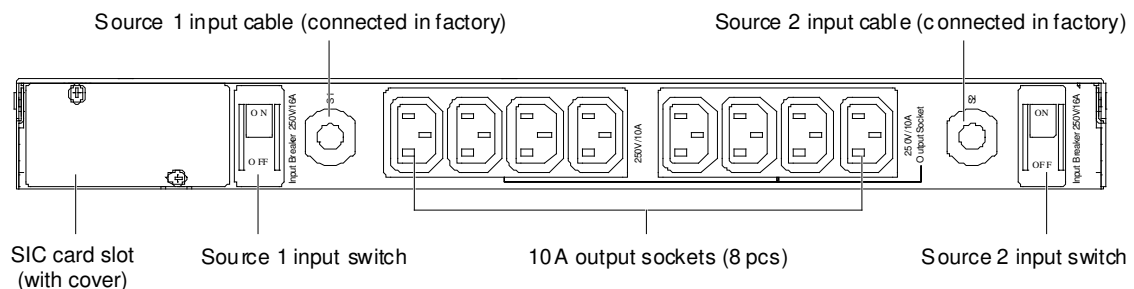
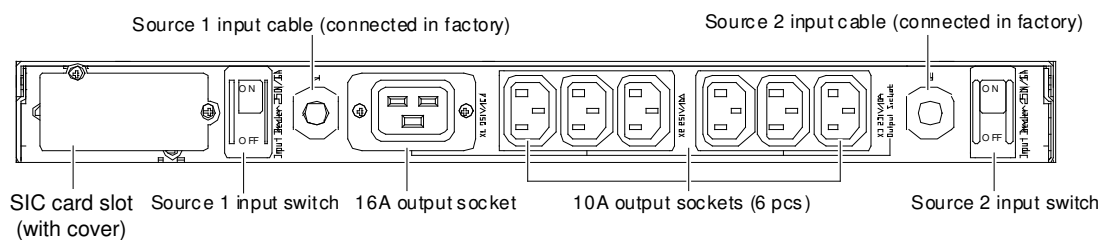
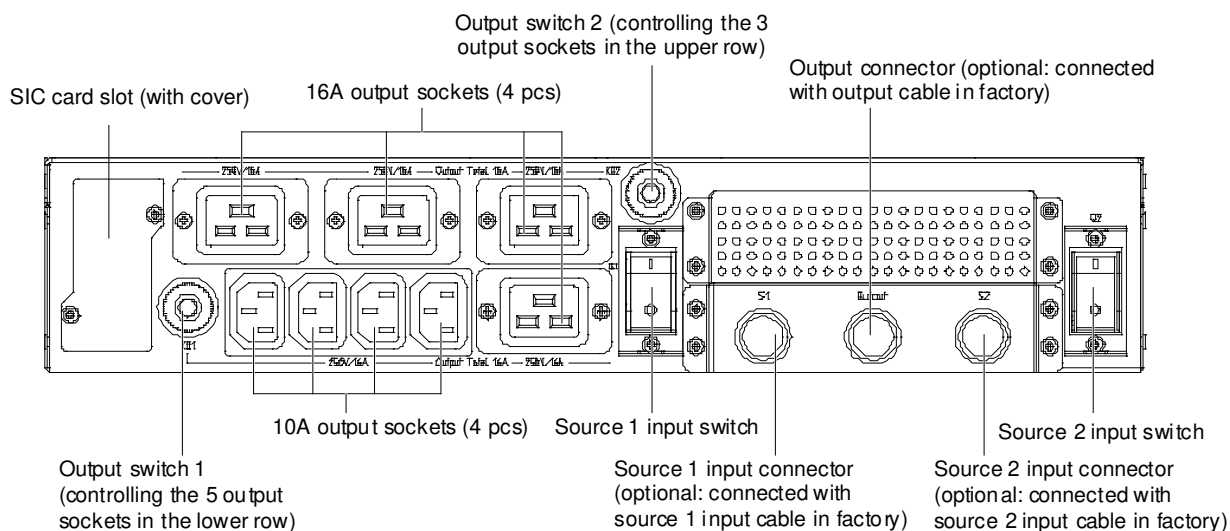

Figure 1-4 10A LTS back panel
Figure 1-5 16A LTS back panel
Figure 1-6 32A LTS back panel
The components provided on the LTS back panel are shown in Figure 1-4 ~ Figure 1-6. The input switches are described in Table 1-3.
1. Check that the source 1 input switch and source 2 input switch (see Figure 1-4 ~ Figure 1-6) of the LTS are off.
The 10A LTS provides eight 10A output sockets (see Figure 1-4) on the back panel. Insert the load cable plugs into corresponding output sockets of the LTS. Note that the total load rated current cannot exceed 10A.
The 16A LTS provides six 10A output sockets and one 16A output socket (see Figure 1-5) on the back panel. Insert the load cable plugs into corresponding output sockets of the LTS. Note that the total load rated current cannot exceed 16A.
The 32A LTS provides four 10A output sockets and four 16A output socket (see Figure 1-6) on the back panel. Insert the load cable plugs into corresponding output sockets of the LTS. Note that the output sockets are in two rows, three 16A output sockets in the upper row, four 10A output sockets and one 16A output socket in the lower row, and that the total load rated current for each row of output socket cannot exceed 16A.
The 32A LTS provides an output connector (see Figure 1-6) on the back panel for load connection through cable. It also provides an optional output cable with a connector at the end. Table 2-1 is the recommended cable min cross-sectional area for users, select appropriate cables according to Table 2-1.
The input cables (see Figure 1-4 and Figure 1-5) connected to the two sources of the 10A and 16A LTSs each provide a connector at the end. Connect the two connectors into corresponding input power.
The 32A LTS provides two input connectors (see Figure 1-6) for connecting the two source supplies respectively through cable. It also provides optional input cables with a connector at the end. Table 2-1 is the recommended cable min cross-sectional area for users, select appropriate cables according to Table 2-1.
The LTS provides a USB interface (see Figure 1-2 and Figure 1-3) on the front panel, which supports RS232 communication, and provides an SIC card slot (see Figure 1-4 ~ Figure 1-6) on the back panel, which is used to install the optional SIC card and supports SNMP networking communication. The two communication modes cannot be used together. You may connect the communication cables according to the actual demand.